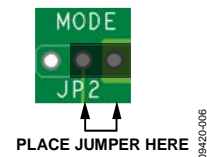

Figure 6. PWM Mode Jumper Position
- Place the converter in forced PWM mode by using a jumper to connect the right most pins of JP2. The jumper connects the MODE pin to VIN, effectively forcing the converter to remain in PWM mode, regardless of the size of the applied load (see Figure 6).